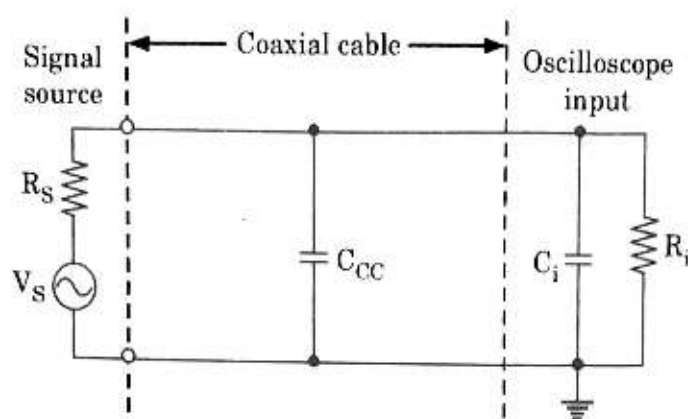

Fig. 2.11.3. Equivalent circuit of signal source, probe, and oscilloscope input.
6. The circuit of a signal source, probe, and oscilloscope input is shown in Fig. 2.11.3.